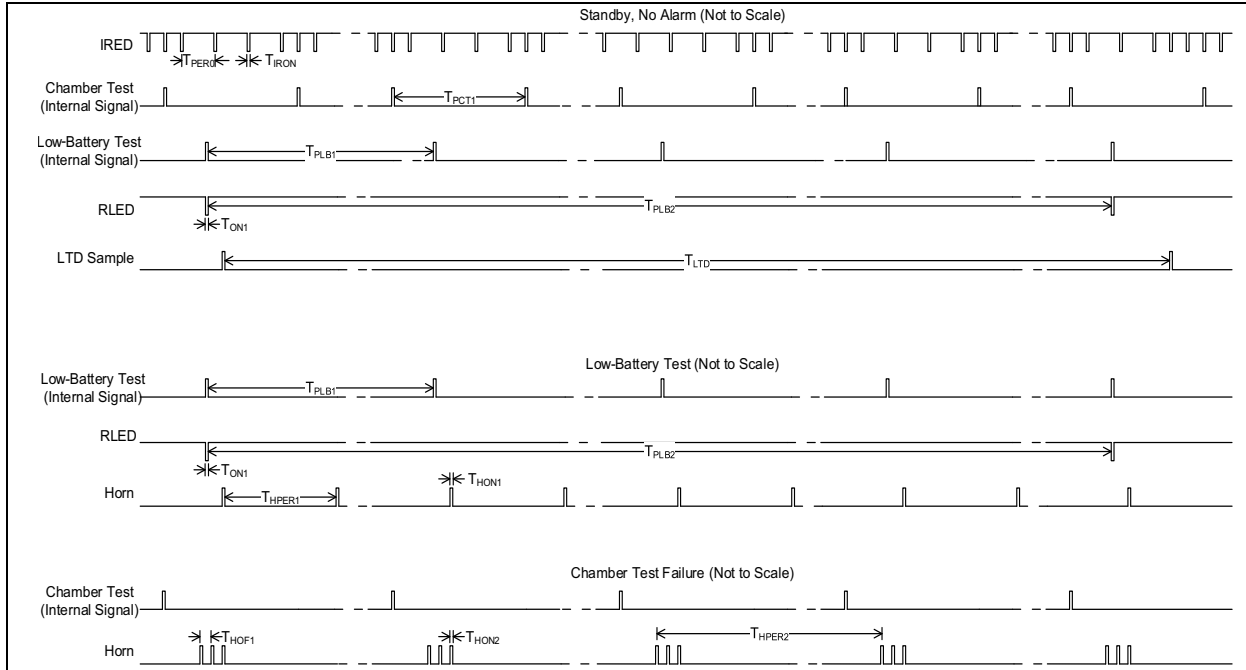

FIGURE 5-1: RE46C194 Timing Diagram – Standby, No Alarm, Low Supply Test Failure and Chamber Test Failure.
- Timing chart changed in Figure 5-1.